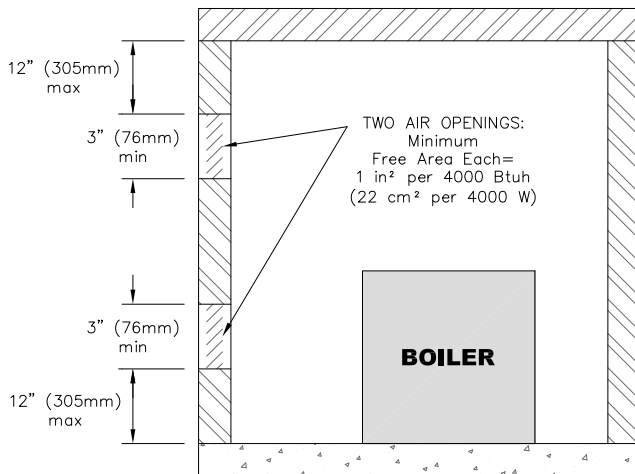
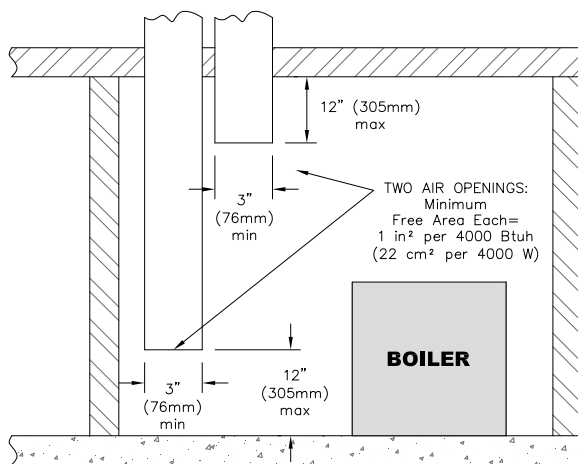

Figure 1.3: Air Openings - All Air Directly from Outdoors
Figure 1.4: Air Openings - All Air from Outdoors through Vertical Ducts
i. Where communicating directly or through vertical ducts with the outdoors each opening shall have a minimum free area of 1 in² per 4000 Btu/hr (22 cm² per 4000 W) of total input rating for all equipment in the space. See Figure 1.3 for openings directly communicating with the outdoors or Figure 1.4 for openings connected by ducts to the outdoors.